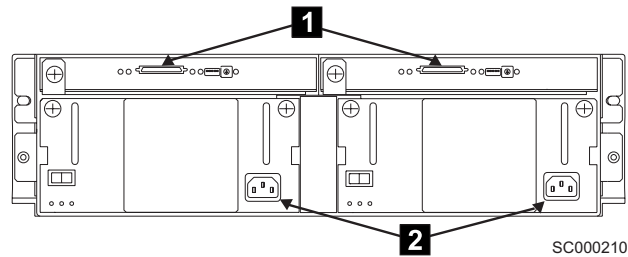

Figure 8. Power cables and SCSI connectors on the 2104 Model DS4
2. Ensure that the power cables **2** are plugged into each fan-and-power-supply assembly. See Figure 8. Also ensure that the other ends of the power cables are unplugged from the power distribution unit or battery-backup unit in the rack. See the installation document for the rack or host system.